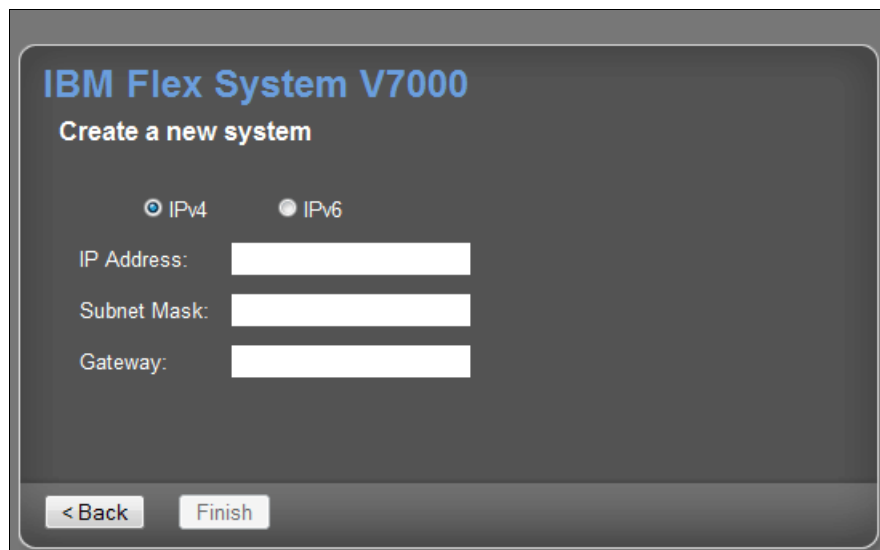

Figure 6-125 Create a new storage cluster
5. In the window shown in Figure 6-125, select whether you are using an IPv4 or IPv6 management IP address and type the IP address (you can use either DHCP or the static address that was assigned). The subnet mask and gateway will already list defaults, which you can edit.